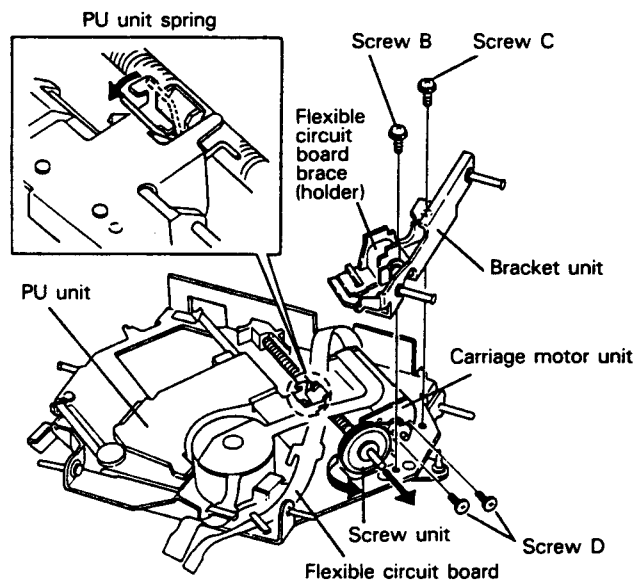

Fig. 4
3. Cock the PU unit spring as shown in Fig. 4 and then move the PU unit to its outermost position. (Cocking the spring disengages the screw unit so that the PU unit can be moved by hand from above.)
1. Cock the PU unit spring as shown in Fig. 4.
2. Cock the PU unit spring as shown in Fig. 4 and move the PU unit to its outermost position.